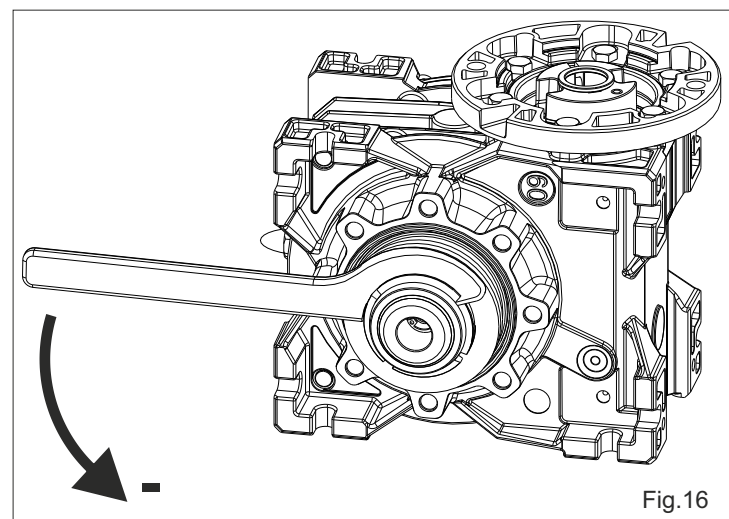

Fig.16
- To **reduce** torque, turn the key **counterclockwise** (Fig.16).